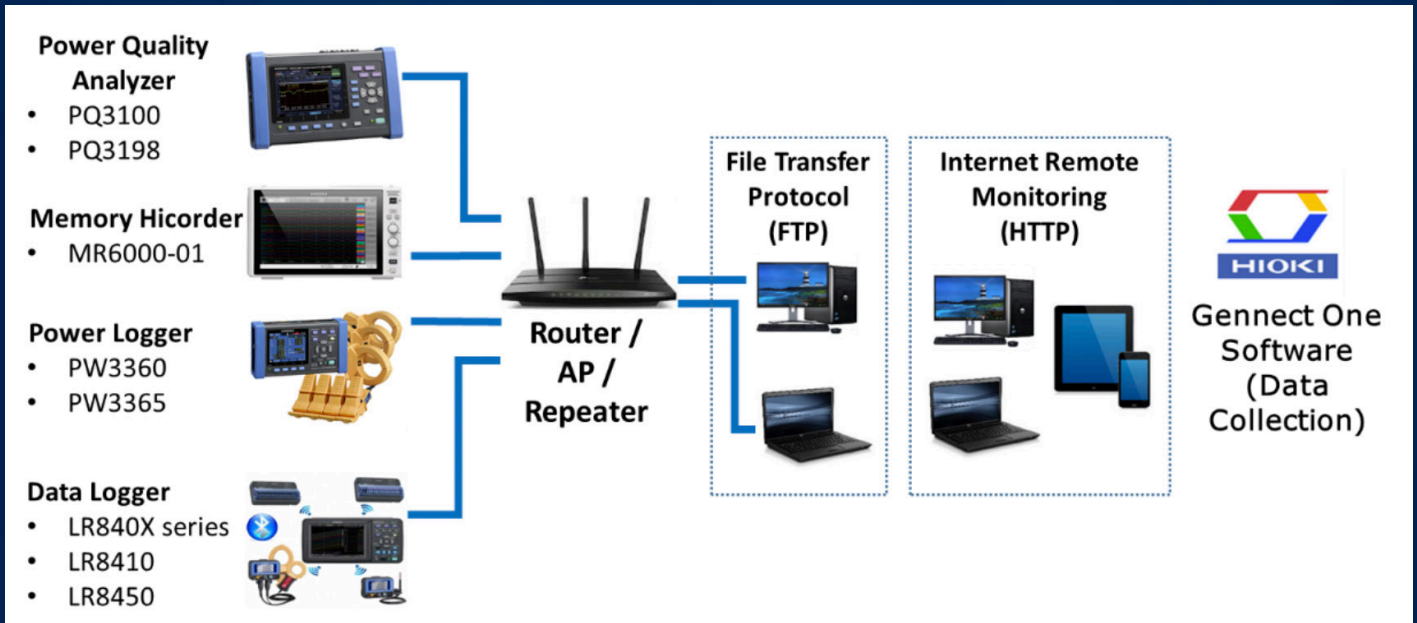

Figure 5.0 Hioki Devices Supported by Gennect One Software for IoT System
The Gennect One software enables up to fifteen (15) devices of real-time data logging simultaneously from different locations. Figure 5.0 shows the various Hioki devices that are compatible with Gennect One software.